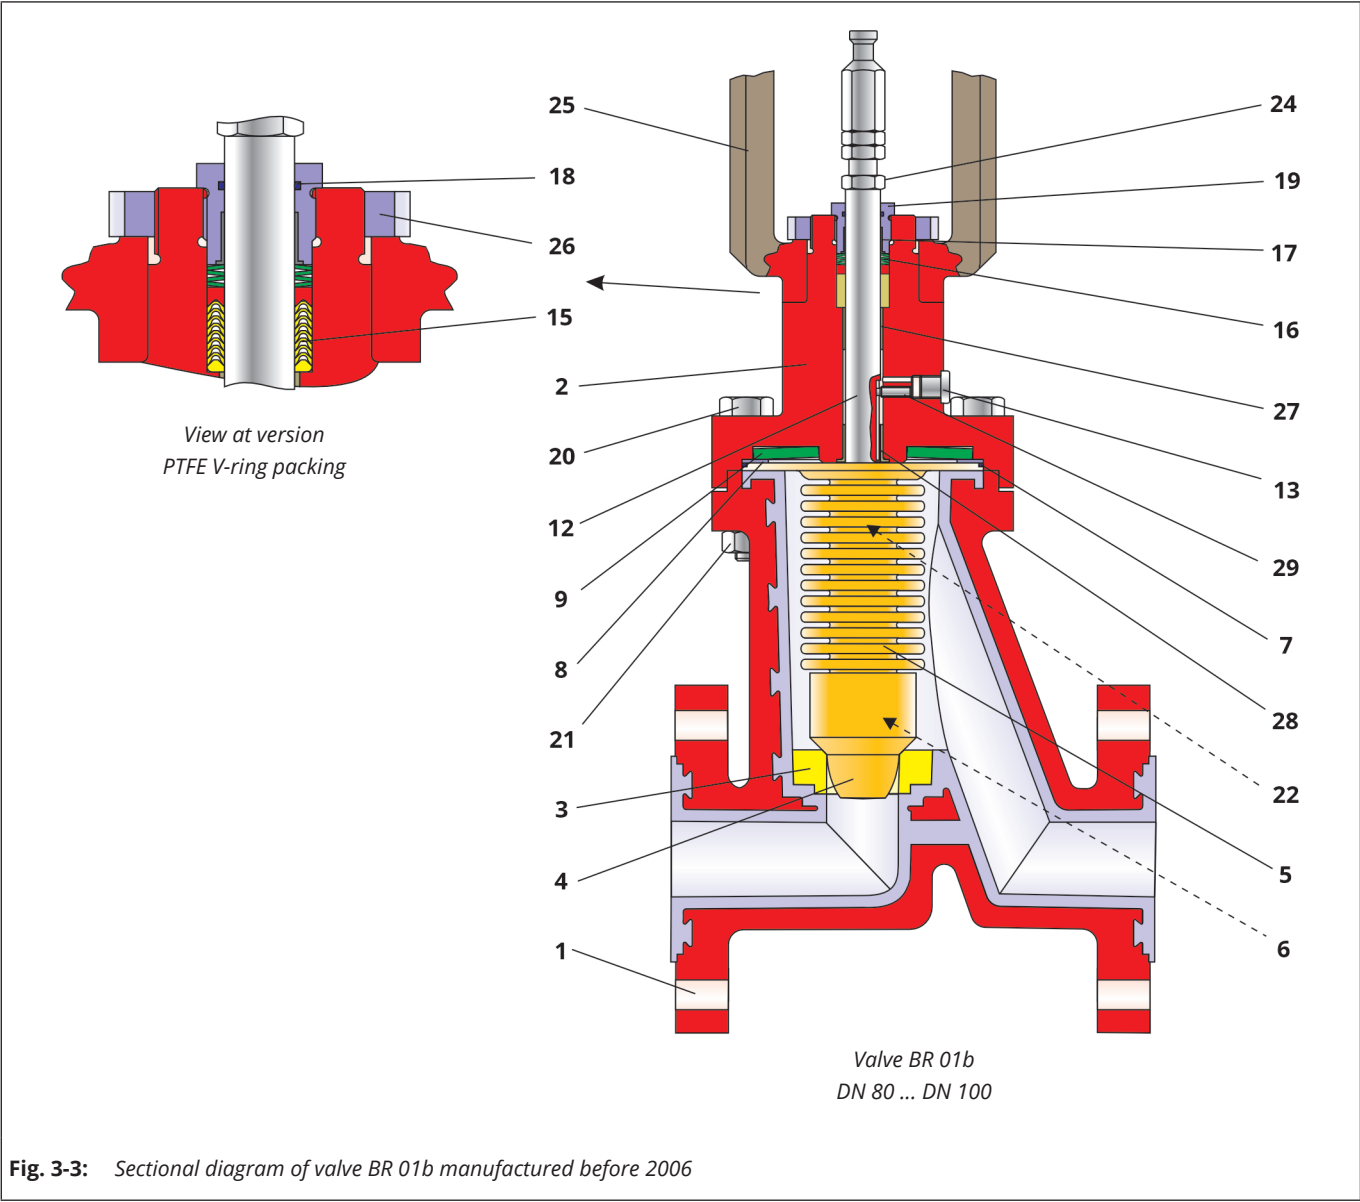

Fig. 3-3: Sectional diagram of valve BR 01b manufactured before 2006
- ⇒ Push in the V-ring packing (15) V-pressure ring, PTFE V-rings and final ring in the correct order into the intended bore. Refer to the drawing Fig. 3-3 for the arrangement of the V-ring packing.
- ⇒ Insert the set of Disc springs (16). Refer to the drawing Fig. 3-3 for the arrangement of the Disc springs.
- ⇒ Insert the o-ring (18) into the inner groove of the stuffing box (19).
- ⇒ Press the upper bearing bush (17) into the bottom part of the stuffing box (19).
- ⇒ Grease the stuffing box (19) on the thread.
- ⇒ Screw the stuffing box (19) into the upper thread of the bonnet (2) so that the outer groove of the stuffing box is still visible.
- ⇒ Push the yoke (25) onto the bonnet and fasten with the Lock nut (26).
- ⇒ Insert the disc washer (9), thrust washer (8) and o-ring (7) in the bonnet (2). Refer to the drawing Fig. 3-3 for the arrangement of parts.
- ⇒ Insert the preassembled stem unit (see Chapter 3.5.2.2) in the bonnet (2)
- ⇒ Press the flange of the bellows (5) into the turned recess of the bonnet (2).
- ⇒ Screw in the threaded pin (29).